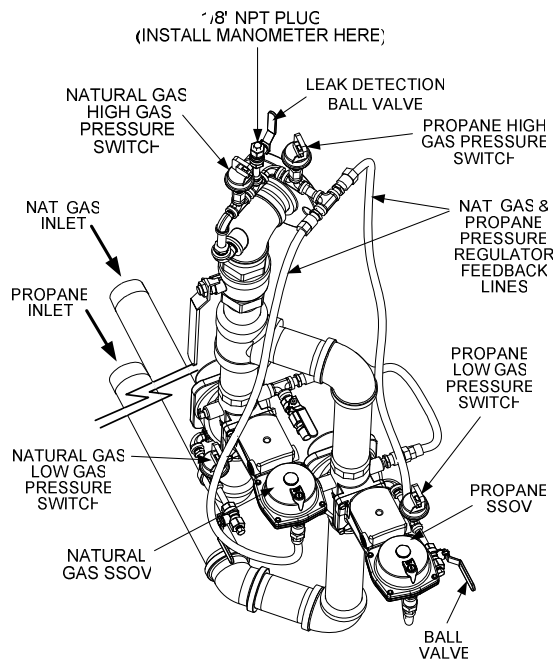

Figure 4-1
3. Remove the 1/8 inch NPT pipe plug from the leak detection ball valve on the downstream side of the Safety Shut Off Valve (SSOV) as shown in Figure 4-1.
- Ensure that the leak detection ball valve (Figure 4-1) downstream of the SSOV is open.